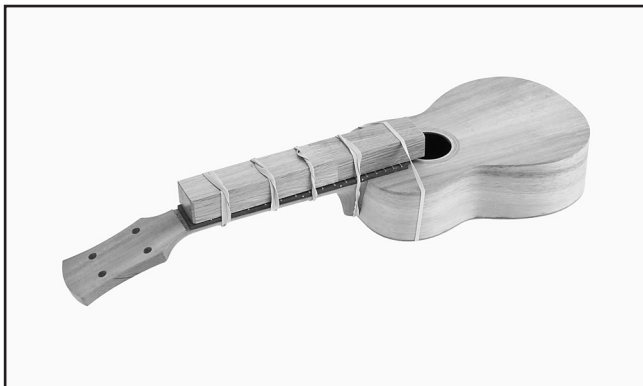

Figure 26. Attaching fingerboard to the neck.
2. Secure the fingerboard in place with rubber bands, as shown in **Figure 26**. Use wedges if necessary to ensure a tight fit. Let the glue dry for at least 24 hours.